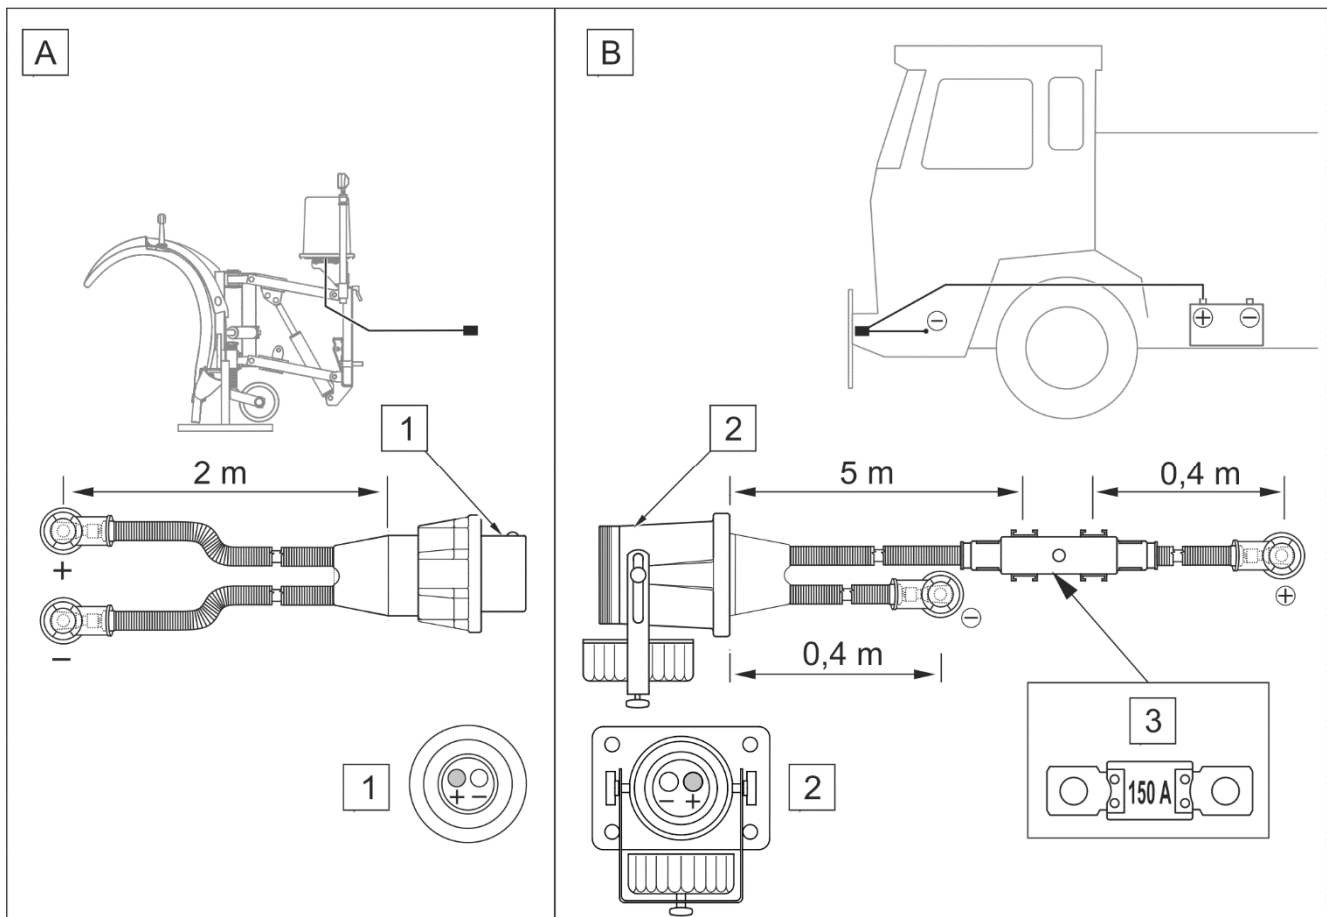

FIGURE 4.20 Installation diagram of the snowplough's electrical supply system
Proper high current socket installed on the front of the carrying vehicle is required for the snowplough operation. If the carrying vehicle is not equipped with such a socket or is equipped with a different type of socket, carry out the socket installation according to the diagram (FIGURE 4.20).
Power lead (B) of the snowplough has a 150A MEGAVAL fuse installed on „+” power lead (FIGURE 4.20)